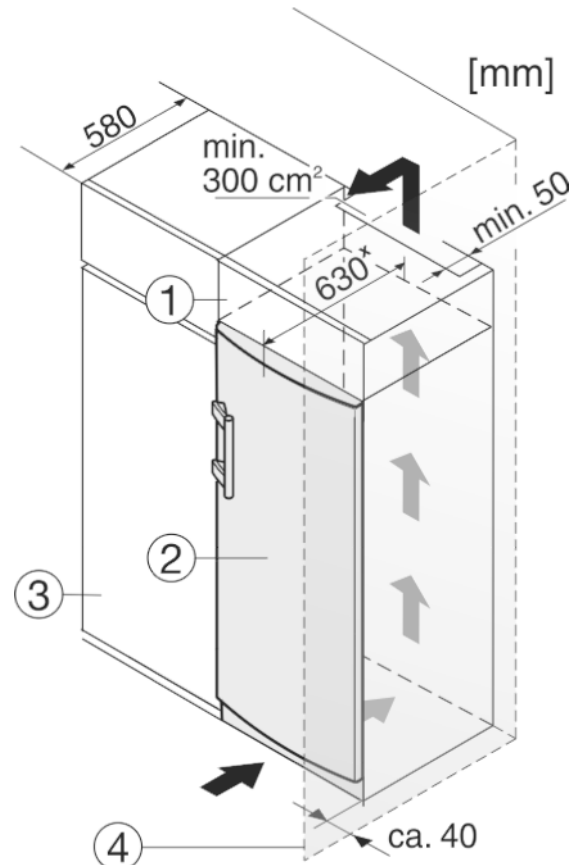

Fig. 11
The appliance can be built into kitchen units. A top cupboard Fig. 11 (2) can be added above the appliance in order to bring the appliance Fig. 11 (1) up to the height of the fitted kitchen units.
When installing with kitchen units (max. depth 580 mm), the appliance can be positioned directly next to the kitchen cabinet Fig. 11 (3). The appliance will project by 34 mm\* at the sides and 50 mm\* in the centre of the appliance in relation to the kitchen cabinet front.
If the appliance is installed with the hinges next to a wall Fig. 11 (4), the distance between appliance and wall has to be at least 40 mm. This corresponds to the projection of the handle when the door is open.